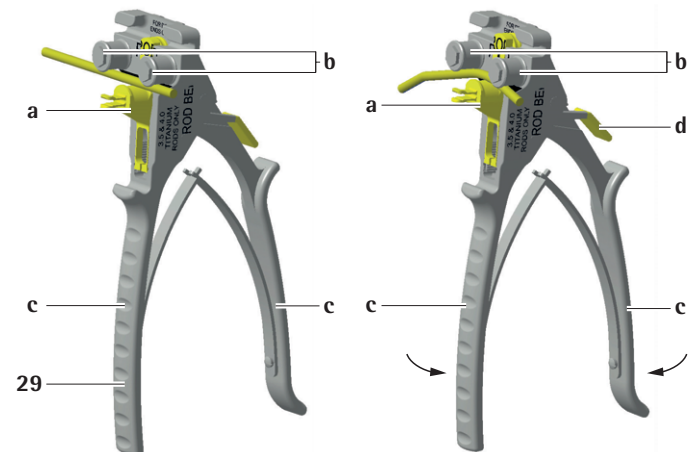

Fig. 25
- ▶ Insert the rod between the central roller **a** and the two rollers **b**, see Fig. 25.